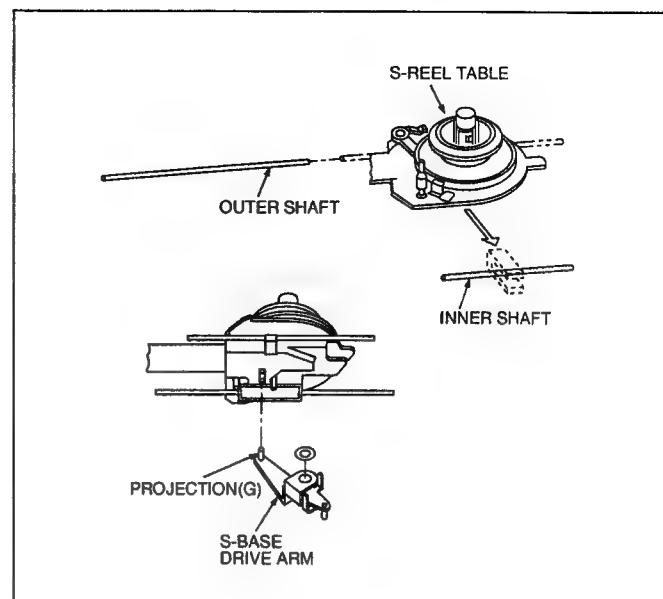

Fig. M-40
- Fig. M-40 Set the inner and outer shafts to the T Reel Table.
- Fig. M-40 Set the inner and outer shafts to the S Reel Table.